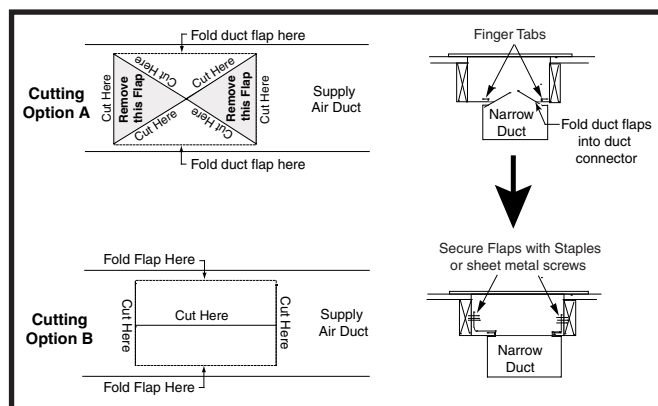

Figure 13. Screw-Down Duct Connector
1. Select Option A or Option B in Figure 13 and cut the top of the supply air duct. Remove metal flaps from the duct (shaded area) if Option A is selected.
5. Form the duct flaps up against the side of the duct connector as tight as possible. See Figure 13.